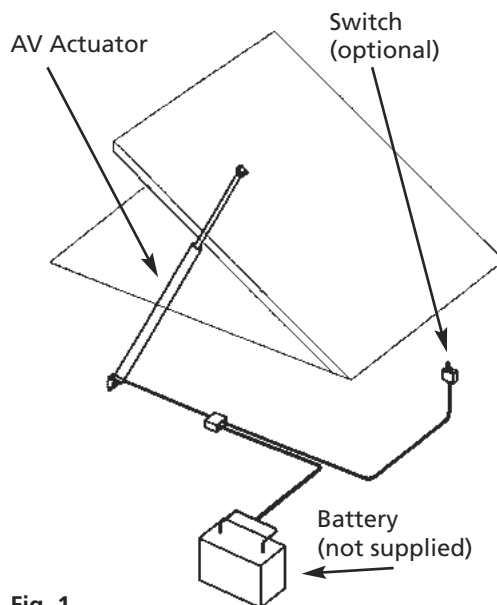

Fig. 1
- n° 1 AV actuator for single installation (Fig.1)
- n° 1 Ulysses actuator (Fig.1)